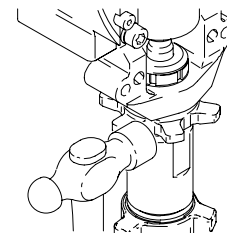

Fig. 15 7673B
3. Fig. 15. Screw jam nut down onto pump until stops. Screw pump up into bearing housing until it is stopped by jam nut. Back off pump and jam nut to align pump outlet to back. Tighten jam nut by hand, then tap 1/8 to 1/4 turn with a 20 oz (maximum) hammer to approximately 75 ± 5 ft-lb (102 N-m).